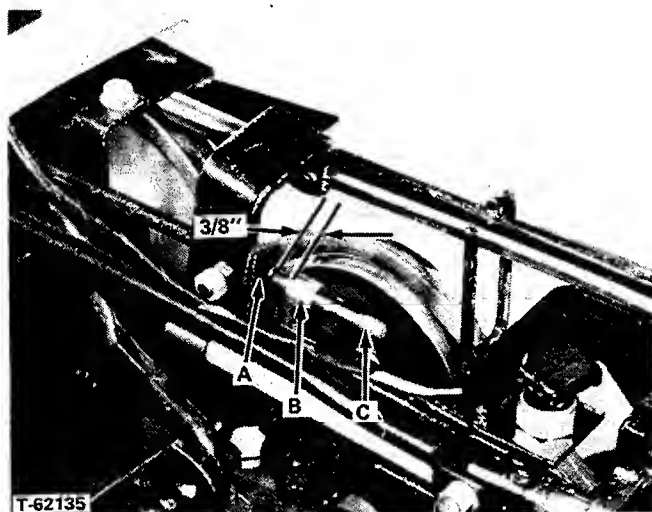

FIGURE 35 - Clutch Rod Clearance Adjustment
- Pull back firmly on the clutch rod (C, Figure 35). There should be a $3/8''$ (9.5 mm) gap between the clutch rod guide (A) and the clutch rod adjusting nut (B).